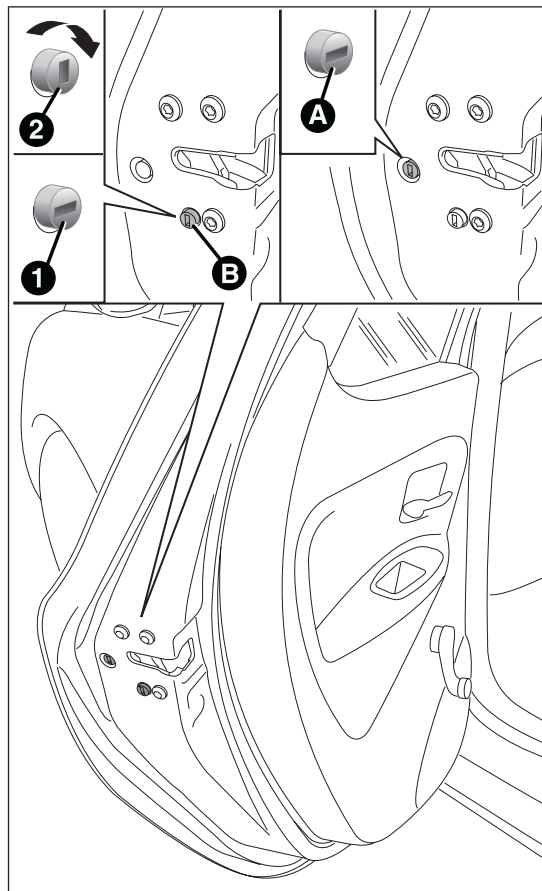
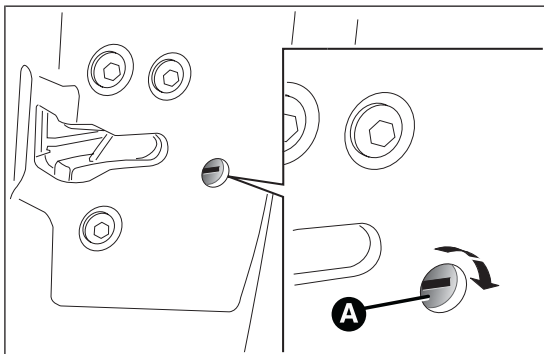

fig. 55
fig. 56
This device A fig. 55 can only be engaged with the doors open:
- engage the metal insert of the ignition key in position A fig. 56 (passenger side front door) or B fig. 55 (rear doors);
- turn the key clockwise and then remove it from housing A fig. 56 or B fig. 55.